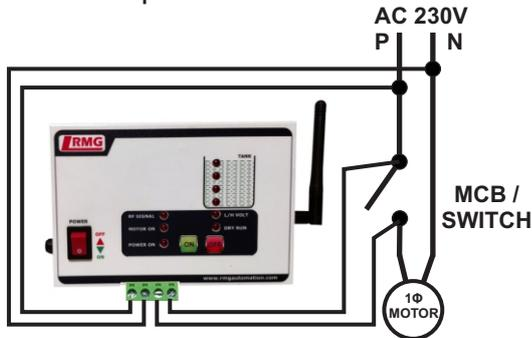
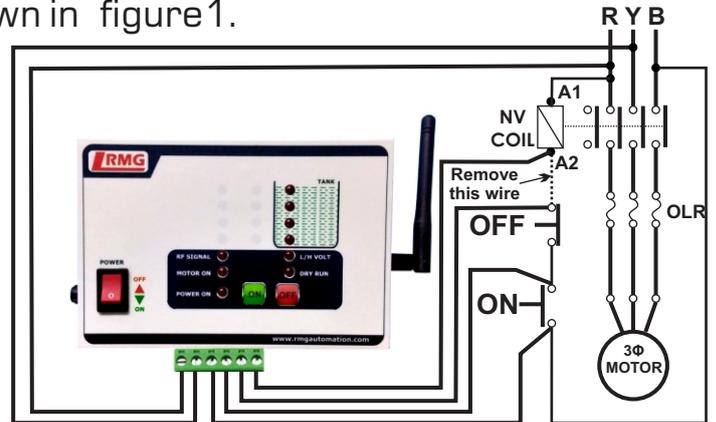
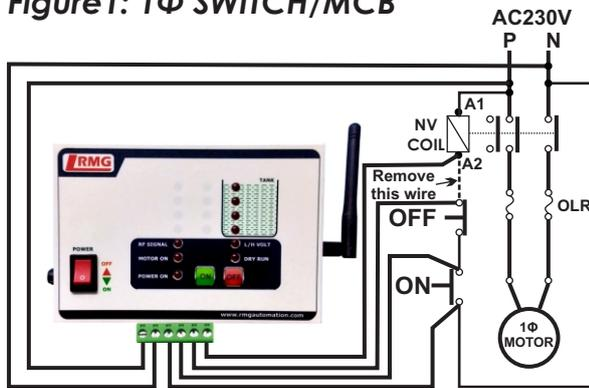

Figure 1: 1Φ SWITCH/MCB
Figure 2: 3Φ Starter
Figure 3: 1Φ Starter
Step 2: As per the model purchased, check the label and connect AC supply (AC 230/440V) to 1st and 2nd terminal of the controller (Refer figure 1 or figure 2).
Step 3: For SWITCH or MCB type motor control, connect 3rd and 4th terminal of controller in parallel to the switch as shown in figure 1.
Step 4: For starter type connection refer Figure 2 & Figure 3. In case of any doubts in connection what's app to 9940594413 or call 044-43180017